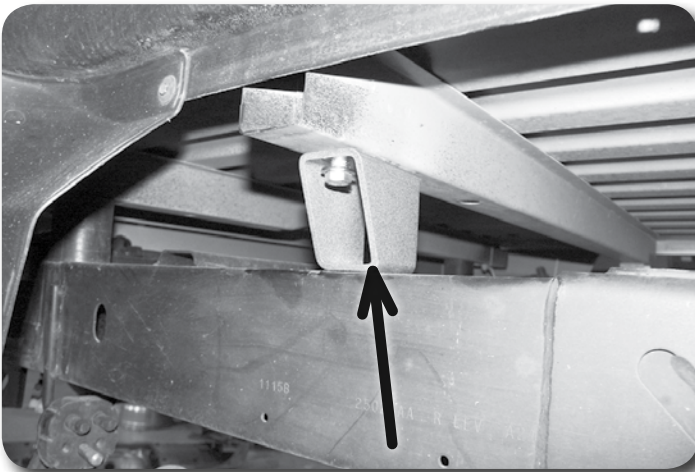

Figure 30
85. Attach the steel overload spacers to the bed with 7/16" x 1" bolts, nuts, and 7/16" SAE washers. Torque bolts to 45 ft-lbs **Figure 30**.